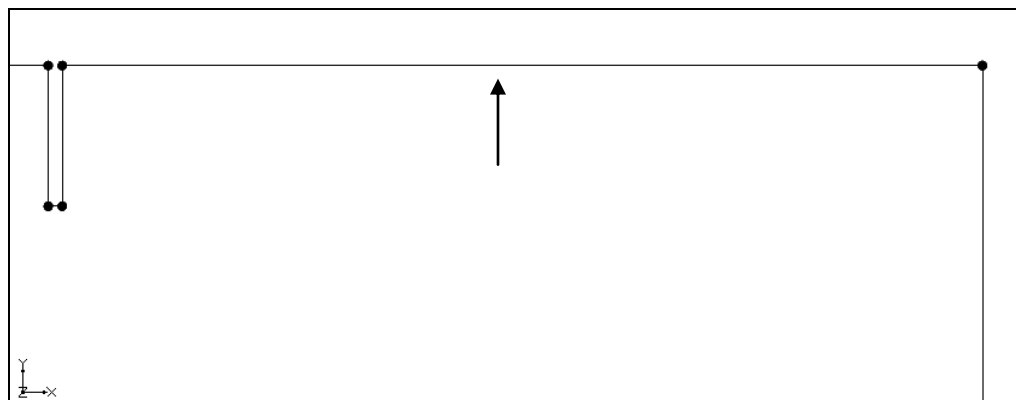

Figure 7 Create the final arc
7. Create the arc indicated by the arrow in Figure 7. Notice that there is no arc across the top of the sheet pile.